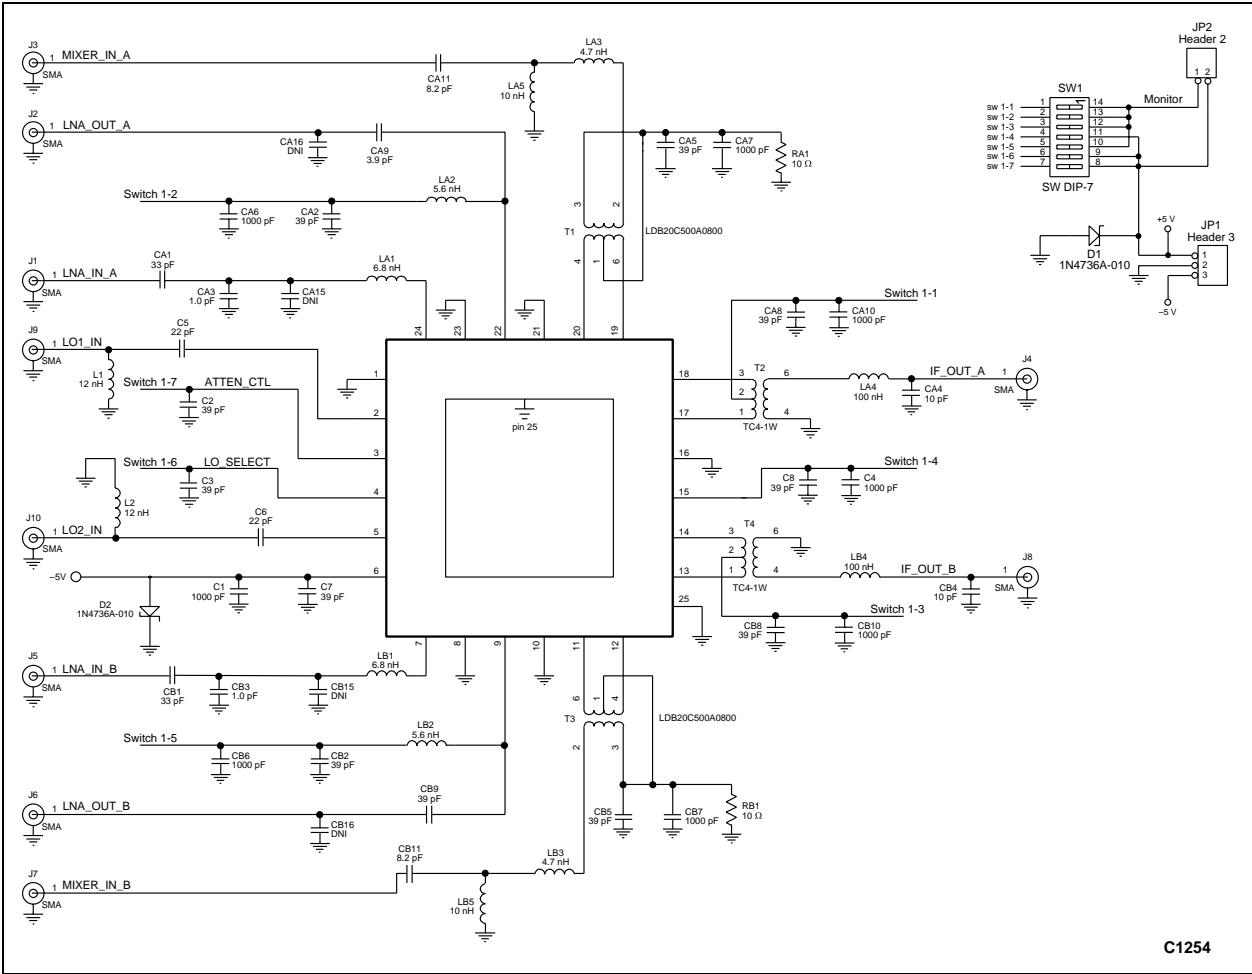
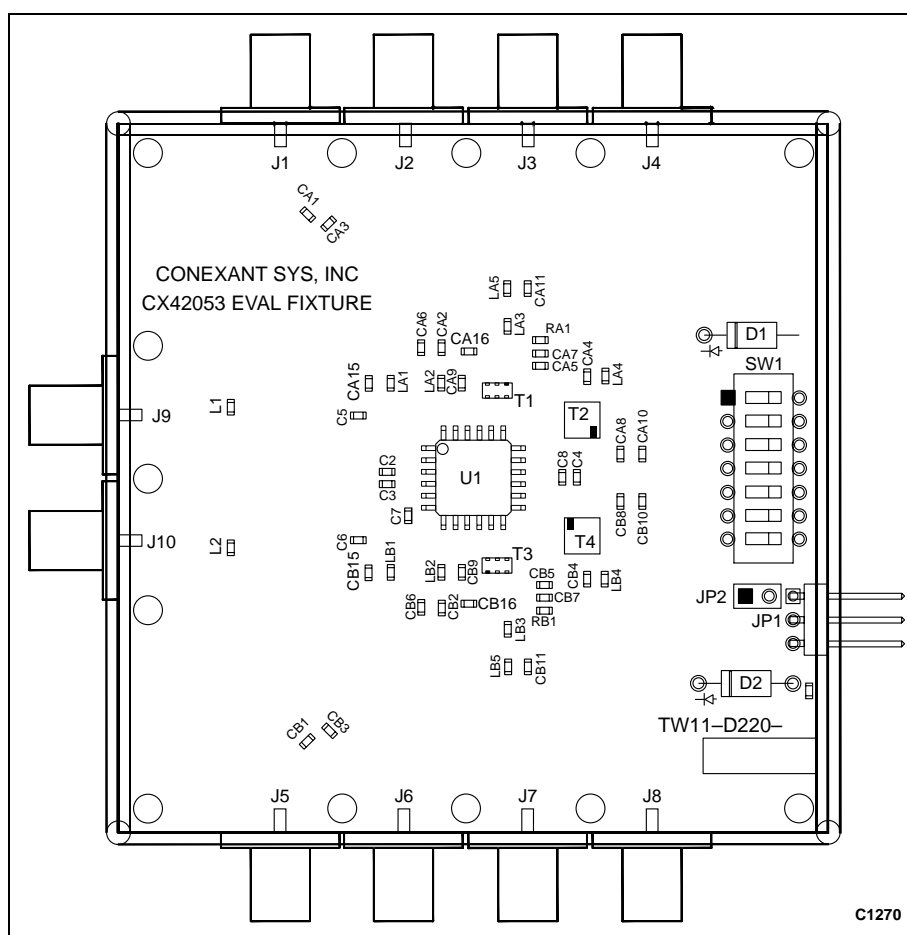

Figure 10. CX42053 Application Schematic
Figure 11. CX42053 Evaluation Board Layout
Note 1: In a 50 Ω system obtained with external matching components on input/output ports. See Figure 10 and Table 6 for matching network configuration and element values. Note 2: Include RF balun and IF transformer losses.
Note 1: In a 50 Ω system obtained with external matching network on LNA and mixer input ports. See Figure 10 and Table 6 for network elements and frequency ranges.
The CX42053 Evaluation Board is used to test the CX42053 mixer and LNA performance. The CX42053 Evaluation Board schematic diagram is shown in Figure 10. Table 6 contains I/O matching network components used in the schematic. The schematic shows the basic design of the Evaluation Board for the RF range of 800 to 1000 MHz. The IF matching circuitry has been optimized for 60 to 130 MHz. Figure 11 displays the Evaluation Board layout.
3. The inclusion of external bypass capacitors on the VSS and VDD voltage inputs of the LNAs and mixers is recommended. The application schematic in Figure 10 shows these capacitors (1000 pF and 12 pF) in shunt with each control switch, as well as the VSS supply. The 1000 pF capacitor serves as a low frequency bypass, while the 12 pF capacitor prevents any RF signals from coupling on to the DC supply voltages. It is recommended that the bypass capacitors be placed as close as possible to the CX42053 for best results.
Note 1: Standard Evaluation Kit TW11-D222 is optimized for the 850 to 1000 MHz frequency range. The schematic diagram shown in Figure 10 applies to Evaluation Kit TW11-D222.